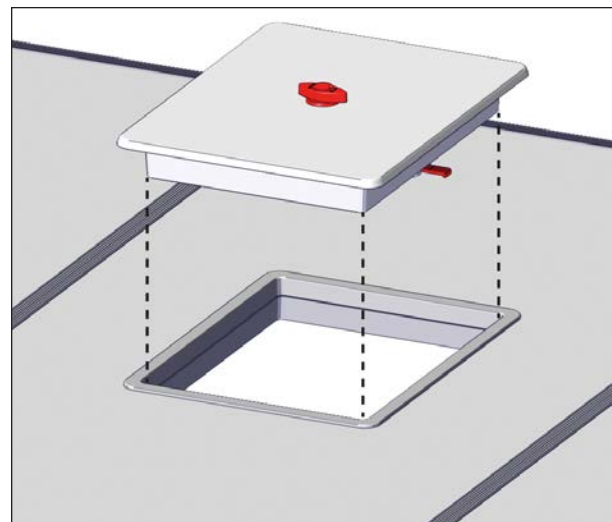

FIGURE 20: ESCAPE HATCH INSTALLATION
4. Turn the escape hatch handle to retract the arms and install it into the escape hatch opening of the center panel, see Figure 20.